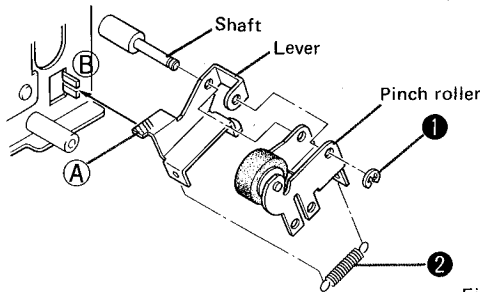

Fig. 5
3. Join the pinch roller with the lever as shown in Fig. 5 and install them to the shaft. At this time put the A section between B section and fix to the shaft with E-stop ring and attach the spring.